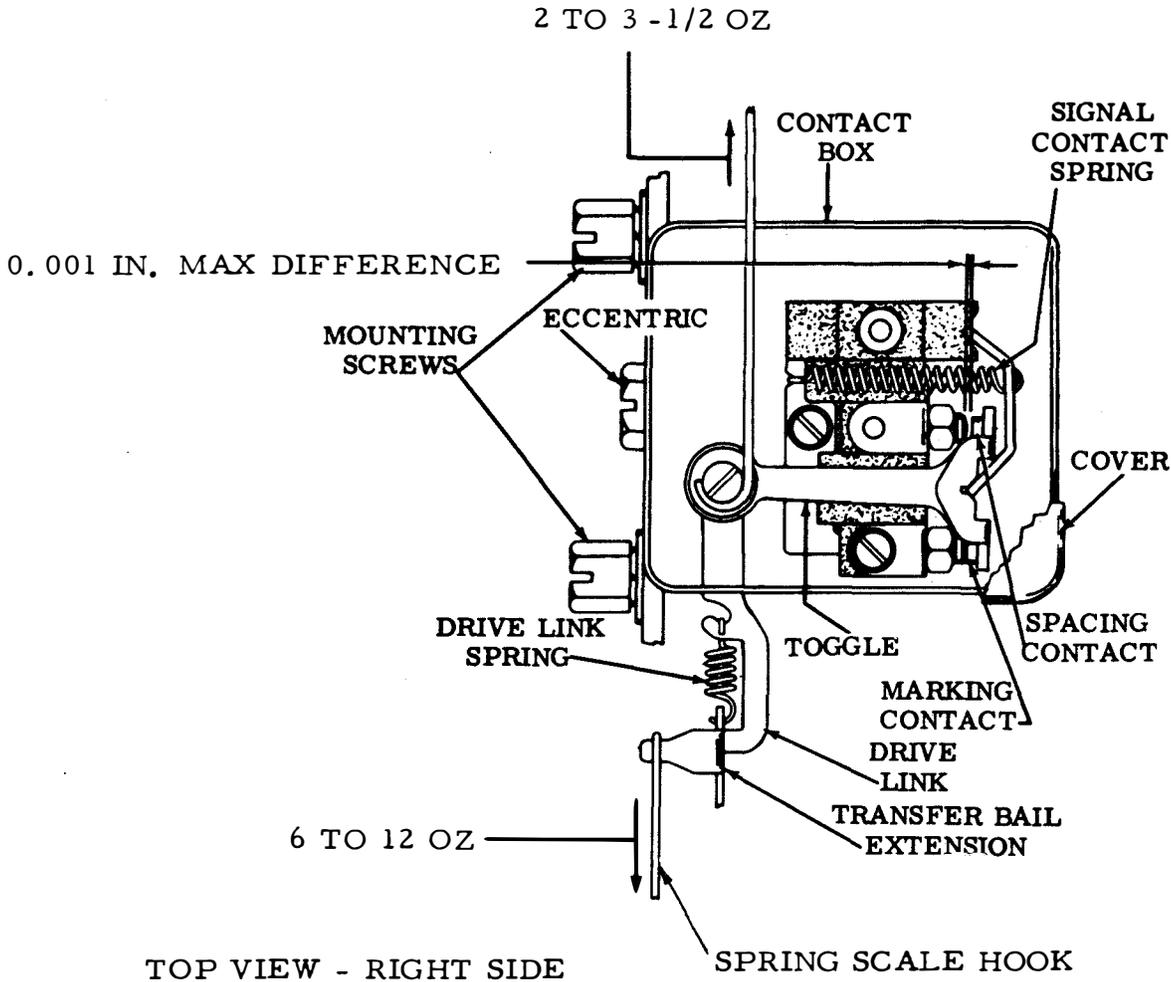

Figure 6-30. Signal Contact Clearance, Drive Link Spring, and Signal Contact Spring
(a) Refer to figure 6-30.
(2) Drive Link Spring. Adjust drive link spring as follows:
- (a) Refer to figure 6-30.